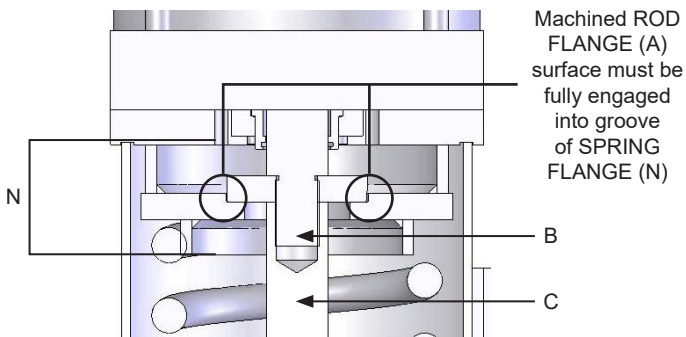

Figure 45. Ensure the Rod Flange and Spring Flange are fully engaged (Spring Cartridge cut-away for clarity)
- Orient SPRING CARTRIDGE ASSEMBLY (M) such that SPRING FLANGE (N) is on top. Mount SPRING CARTRIDGE ASSEMBLY (M) onto HOUSING ASSEMBLY (J).
- Fasten SPRING CARTRIDGE ASSEMBLY (M) to HOUSING ASSEMBLY (J) using 4 HEX HEAD CAP SCREWS (O), 4 FLAT WASHERS (P), 4 LOCK WASHERS (Q), and 4 HEX JAM NUTS (R).
- Orient the CYLINDER (S) such that NPT holes are in back. Mount CYLINDER (S) onto SPRING CARTRIDGE ASSEMBLY (M). Ensure ROD FLANGE (A) is fully engaged into SPRING FLANGE (N) grooves as shown in figure 45.